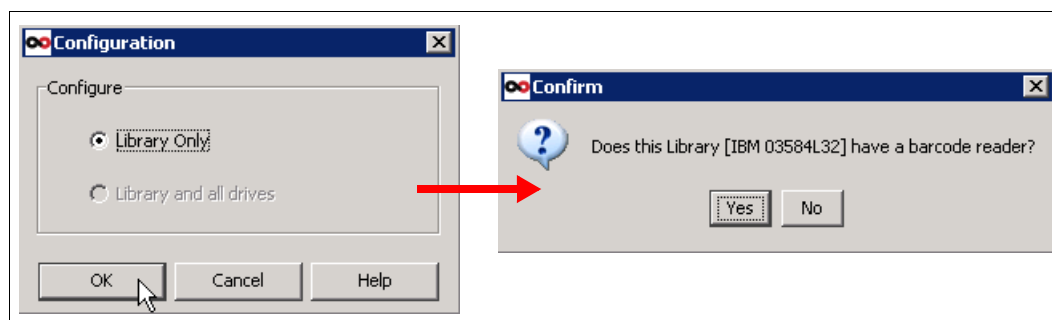

Figure 18-8 Confirm the library robotics configurations
10. The Configuration window opens, where you can select **Library only** or **Library and all Drives** to be configured. Click **Library only** (Figure 18-8). In most cases, the possibility of tape drive configuration is not available yet. Click **Yes** to confirm that the library has a bar code reader.